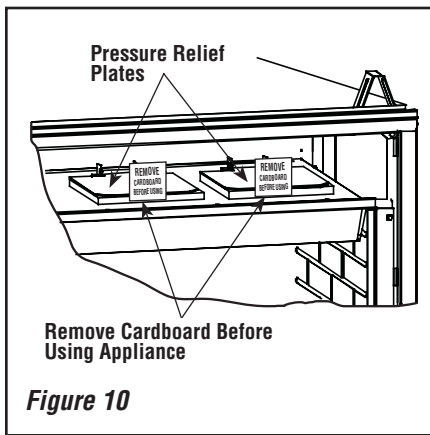

Figure 10
2. Remove Front Face Assembly (refer to *Figure 10, page 12*) by lifting and pulling straight out from the fireplace.